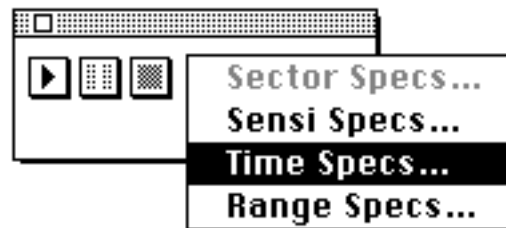

Figure 24: Using the run controller to change the time specifications
- **Drag the pointer down to the option *Time Specs...* as done in Figure 24. Release.**
Your diagram should look like the diagram in Figure 24.